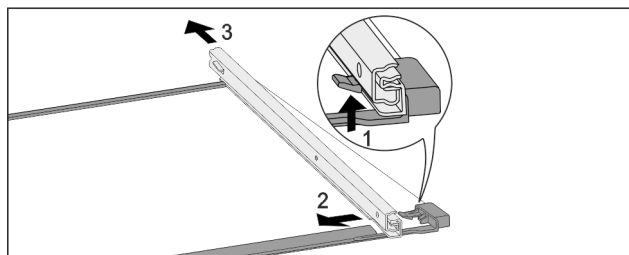

Fig. 104 Glass shelf with rails
- Push up front click-in hooks. Fig. 104 (1)
- Slide pull-out rails to the side Fig. 104 (2) and back towards Fig. 104 (3).